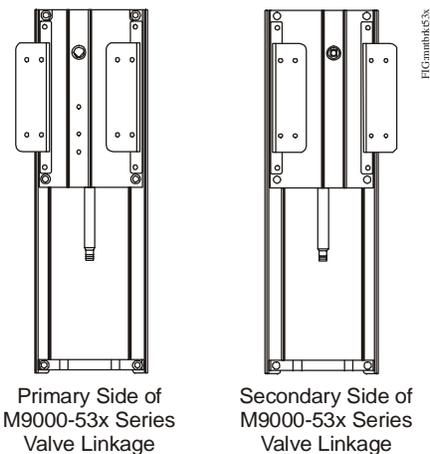

Figure 5: Proper Orientation of the Mounting Brackets onto the M9000-53x Series Valve Linkage
4. Orient the two mounting brackets onto the primary side of the M9000-53x Series Valve Linkage (for single-mount applications) as illustrated in Figure 5.